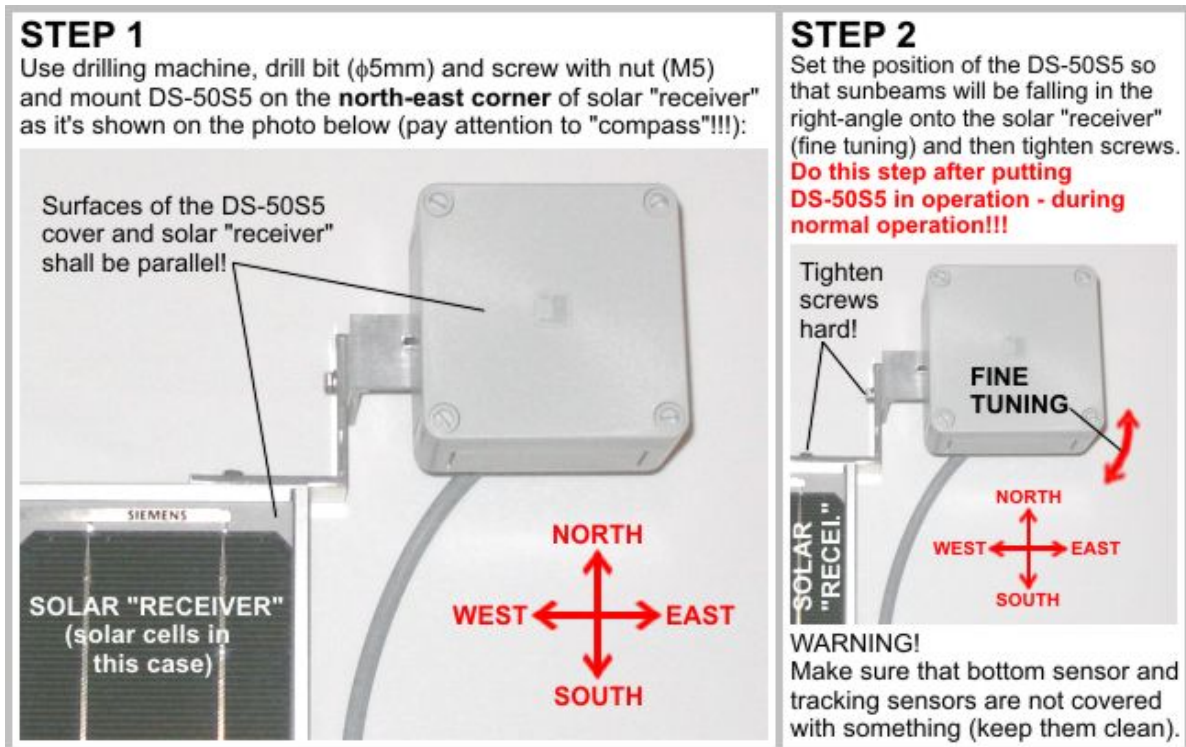

Figure 7: Mounting DS-50S5 on the solar "receiver" (northern hemisphere)
a) If your tracker (solar "receiver") is positioned somewhere in the northern hemisphere of the earth mount DS-50S5 on the north-east corner of your solar "receiver" as it's shown on Figure 7: